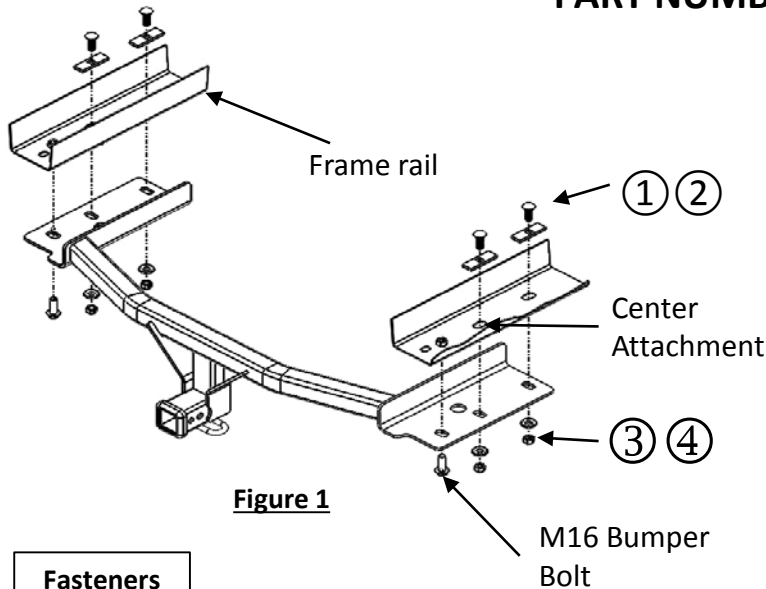
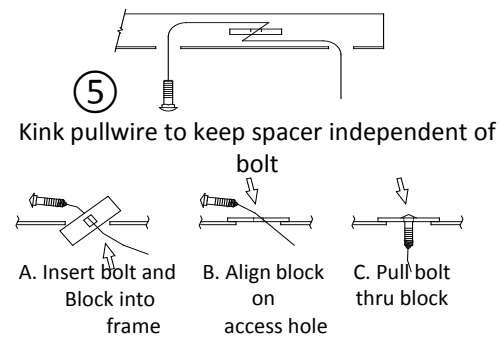

Figure 1
Figure 4
- Install hitch** – Using the supplied pullwires ⑤ install the carriage bolts ① and spacers ② into the vehicle frame through the center attachment, see **Fig. 4**, leave pullwires attached. Make sure weldnuts are free from rust and debris. Raise the hitch into position and align holes in hitch bracket to the frame rail weldnuts guiding the pullwire ends through holes in the hitch bracket and loosely reinstall the M16 bumper bolts removed in step 4. Remove pullwires, install conical washers ③ (teeth side toward hitch) and nuts ④, see **Figure 1**.
7. Install hitch – Using the supplied pullwires ⑤ install the carriage bolts ① and spacers ② into the vehicle frame through the center attachment, see **Fig. 4**, leave pullwires attached. Make sure weldnuts are free from rust and debris. Raise the hitch into position and align holes in hitch bracket to the frame rail weldnuts guiding the pullwire ends through holes in the hitch bracket and loosely reinstall the M16 bumper bolts removed in step 4. Remove pullwires, install conical washers ③ (teeth side toward hitch) and nuts ④, see **Figure 1**.